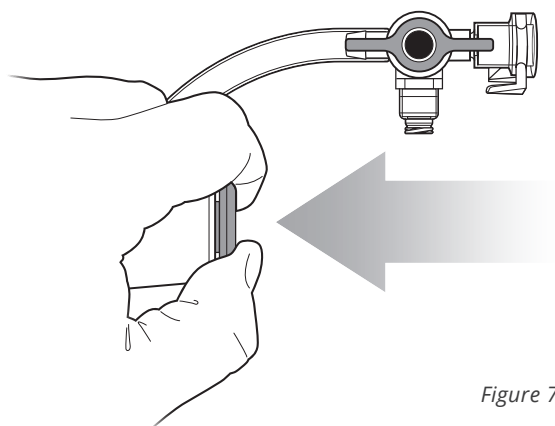

Figure 7
- b. Press and hold the hub defeater to actively defeat the hemostasis valve (See Figure 7):